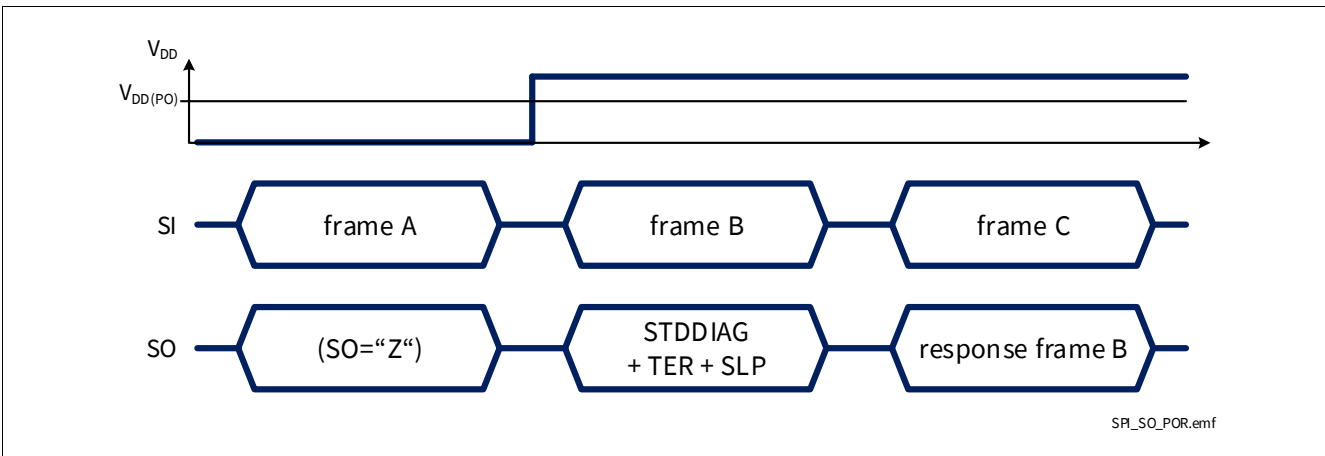

Figure 44 SPI response after coming out of Power-On reset at V_{DD}
- When BTS71220-4ESA digital supply comes out of Power-On reset condition, as shown in Figure 44